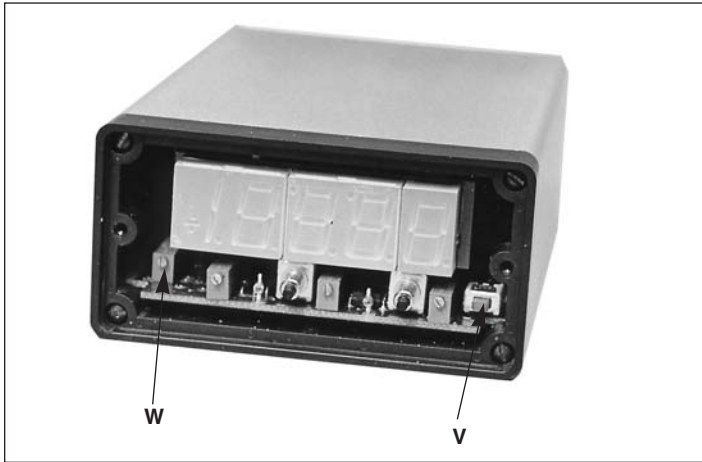

Figure 18, Shunt Cal. Switch
1. Span adjustment is factory set at $\pm .5\%$ accuracy for the gauge and transducer with matching serial numbers. The shunt cal. switch (Figure 18) can be used as a spot check for calibration settings.
3. Remove the face plate. Press the shunt cal. switch (**V** Figure 18) and compare the display value with the reference value shown on inside front cover of this instruction sheet. If the display value varies by more than the $\pm .05\%$ from the reference value, the gauge must be re-calibrated.